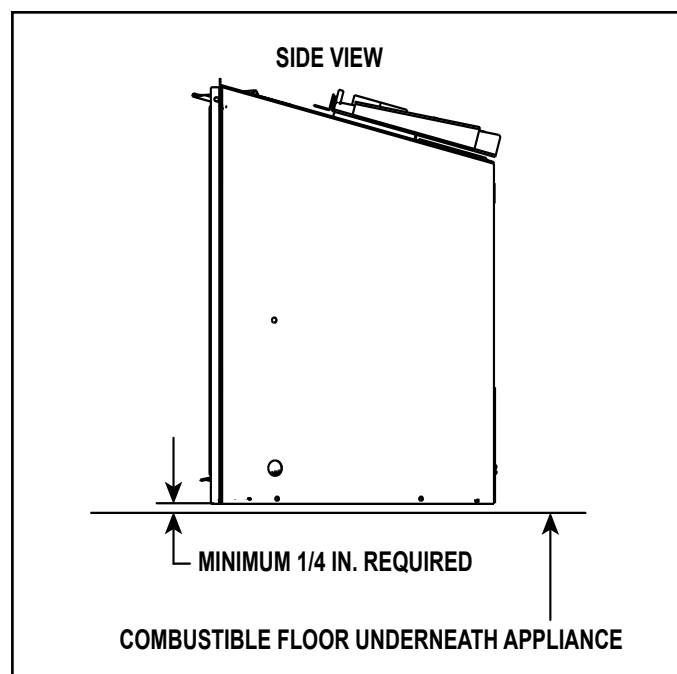

Figure 3.5 Solid Fuel Floor Clearance
- A minimum 1/4 inch gap from the bottom of the appliance to the metal floor of the solid fuel firebox is **REQUIRED**. See side view in Figure 3.5.